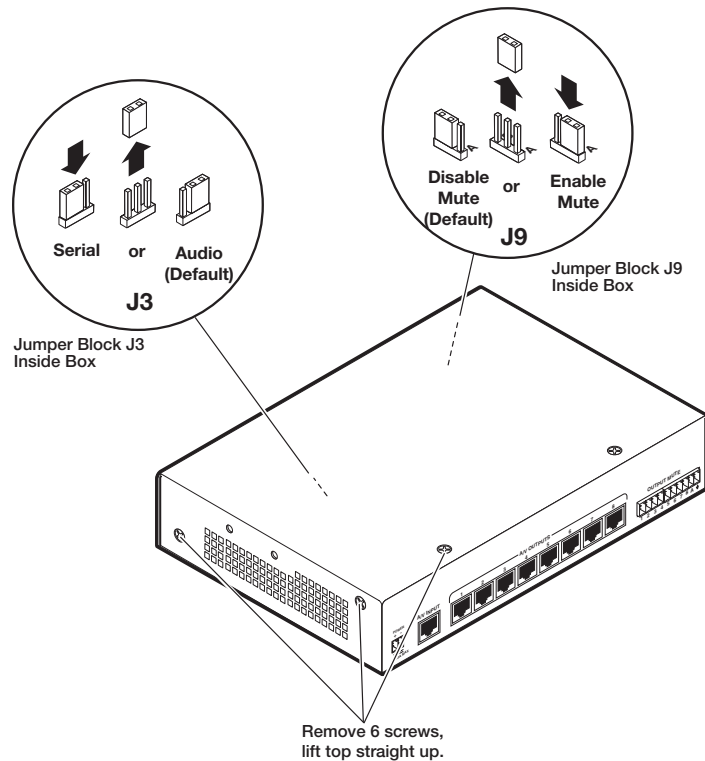

Figure 2. Opening the DA and Termination Jumpering
2. Remove the two screws from both sides of the DA and the two screws on the top (six screws total) and lift the top cover off of the DA (see figure 2).
3. **Select audio or serial distribution** — Locate jumper J3 on the main board and shift the jumper from the audio (default, on the right) to the serial (left) position (see figure 2).
- 4. Enable or disable audio or serial distribution mute** — If desired, locate jumper J9 on the main board and shift the jumper from the disable mute (default, on the top) to the enable mute (bottom) position (see figure 2).